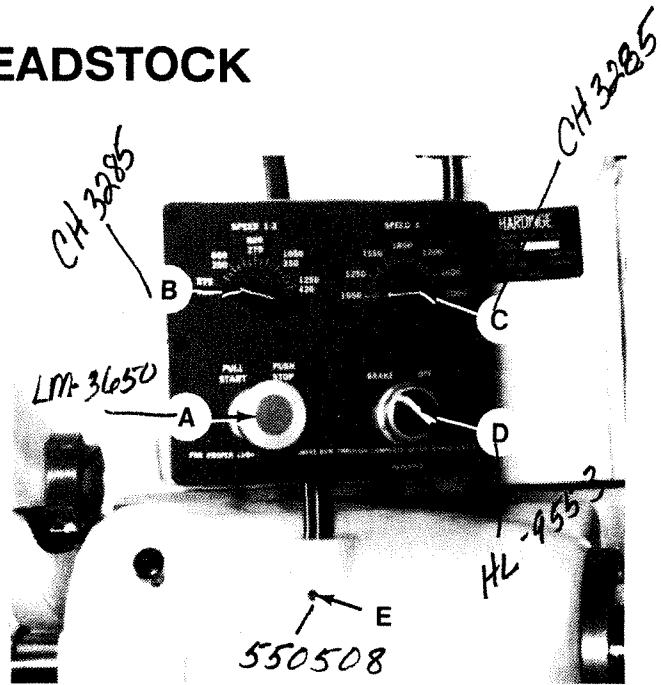
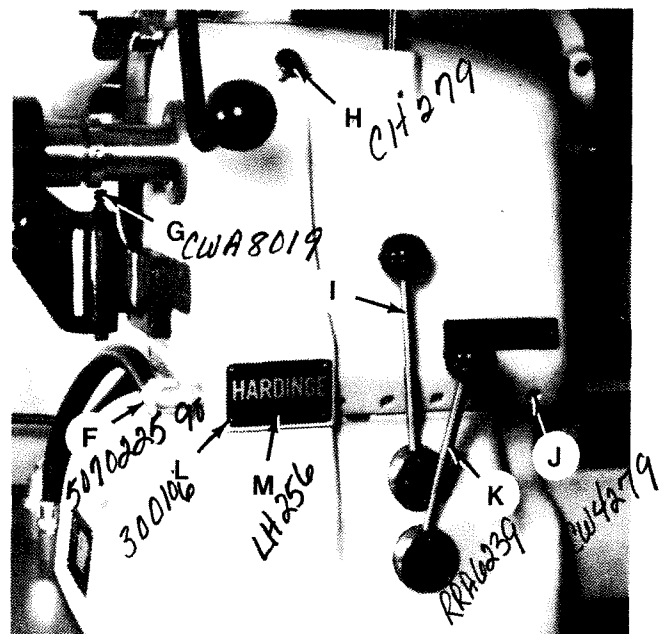

Figure 4.1 - Control Head
Figure 4.2 - Headstock and Collet Closer
1. Press "Start/Stop" pushbutton "A", Figure 4.1, IN to turn the machine OFF.
2. Remove link pin "G", Figure 4.2.
3. Install link pin "G", Figure 4.2.
1. Place lever "K", Figure 4.2, in the "Brake" position.
2. Turn switch "D", Figure 4.1, to the "Brake" position.
4. Place lever "I", Figure 4.2, in range "1" and set speed selector "B", Figure 4.1, to 125 rpm.
5. Place lever "K", Figure 4.2, in the "Forward" or "Reverse" position to initiate spindle rotation.
7. Press "Start/Stop" pushbutton "A", Figure 4.1, IN to turn the machine OFF.
14. Pull "Start/Stop" pushbutton "A", Figure 4.1, OUT to turn the machine ON.
15. Place lever "I", Figure 4.2, in range "3" and set speed selector "C", Figure 4.1, to 3000 rpm.
16. Place lever "K", Figure 4.2, in the "Forward" or "Reverse" position to initiate spindle rotation.
18. Press "Start/Stop" pushbutton "A", Figure 4.1, IN to turn the machine OFF.
27. Loosen set screw "E", Figure 4.1, and remove the control head from the headstock.
28. Remove four screws "L" and limit switch cover "M", Figure 4.2 .
31. Remove conduit nut "F", Figure 4.2, and pull the wires out of the headstock.
2. Tighten five screws "J", Figure 4.2 .